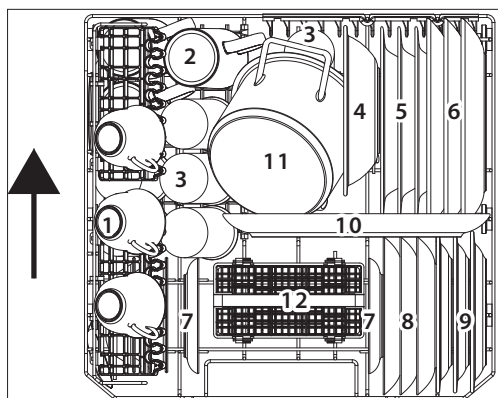

Fig. 15: with cup support folded out
- ▶ Load the dish rack (9) as shown in the example (**Fig. 15/16**). The arrow shows the slide-in direction. Dishes should be placed in the positions provided to obtain the best washing result.